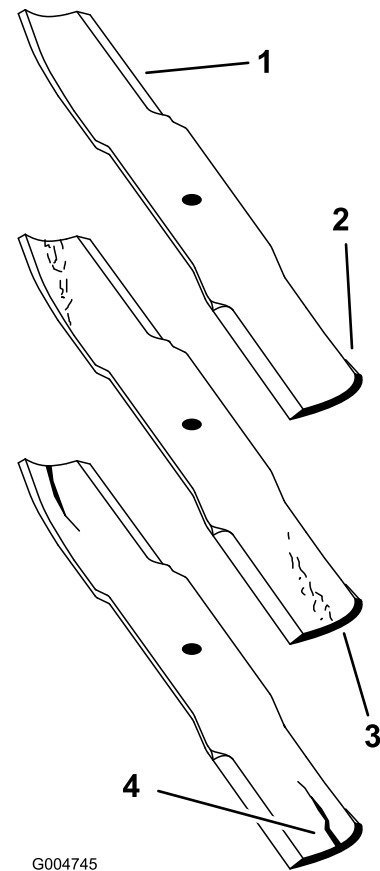

Figure 61
1. Inspect the cutting edges (Figure 61).
2. Inspect the blades, especially the curved area (Figure 61).
Note: If you notice any cracks, wear, or a slot forming in this area (Figure 61), immediately install a new blade.